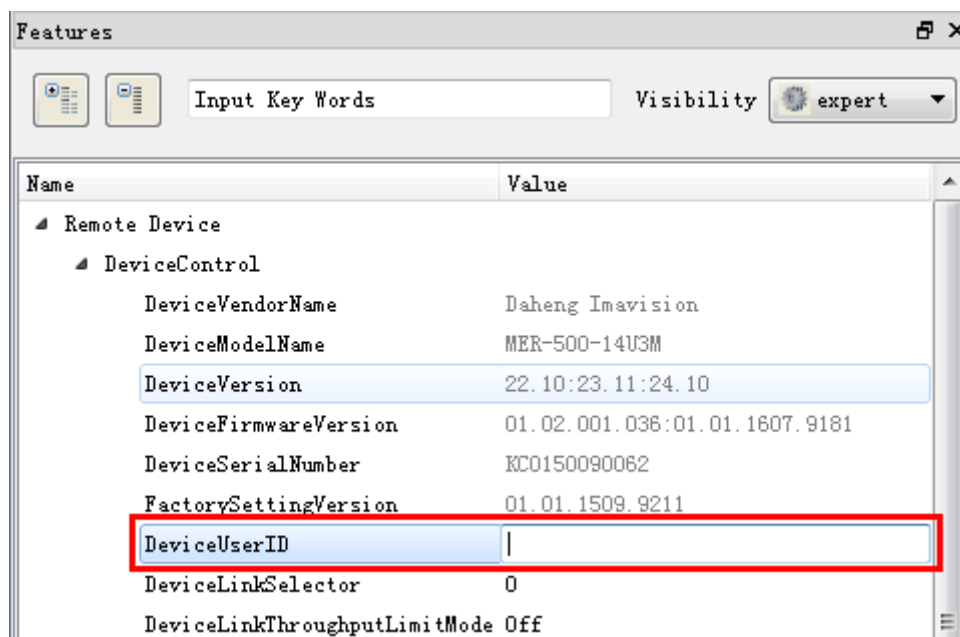

Figure 8-31 DeviceUserID
- 1) Set by the GalxyView, as shown in the Figure 8-31.